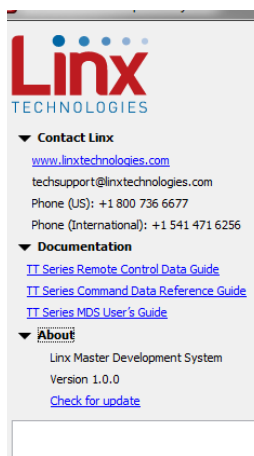

Figure 15: The Master Development System Software Additional Information
1. Clicking the Contact Linx, Documentation and About labels on the left side expands them to show additional information and links to the latest documentation. This is shown in Figure 15.